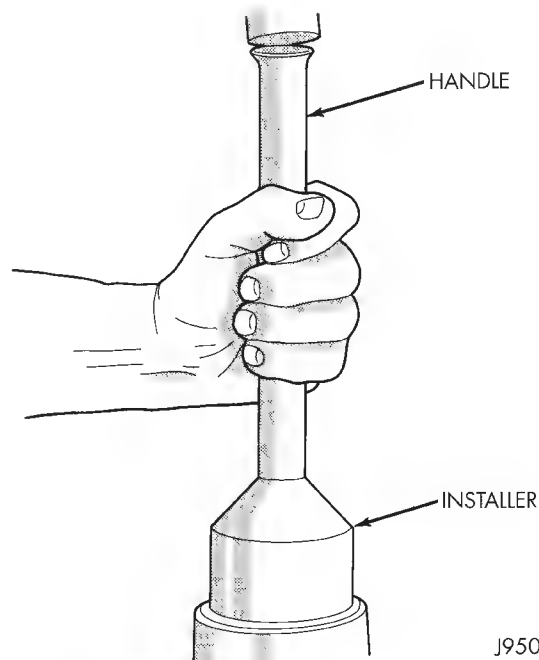

Fig. 4 Pinion Seal Installation
(1) Apply a light coating of gear lubricant on the lip of pinion seal. Install seal with Installer D-163 and Handle C-4171 (Fig. 4).